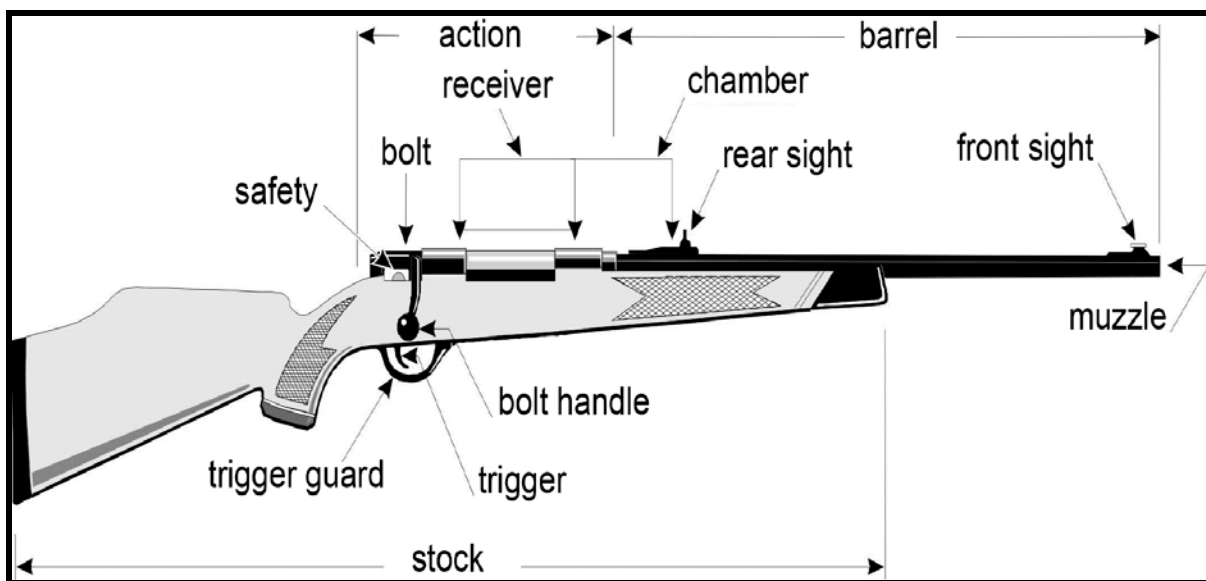

Figure 47. Bolt action
- b. The **safety mechanism** is usually located on top of the action above the trigger area on the left or right side of the bolt. This is often a lever safety but can also be a slide/tang located directly behind the bolt (Figures 47 and 48).